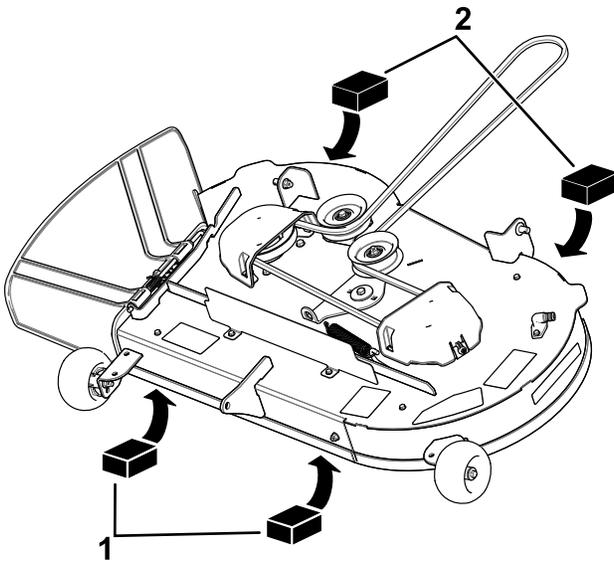

**Figure 67**
4. Place 2 blocks, each having a thickness of 6.6 cm (2-5/8 inches), under each side of the front edge of the deck but not under the anti-scalp roller brackets (Figure 66 or Figure 67).
5. Place 2 blocks, each having a thickness of 7.3 cm (2-7/8 inches), under the rear edge of the cutting deck skirt, 1 on each side of the cutting deck (Figure 66 or Figure 67).